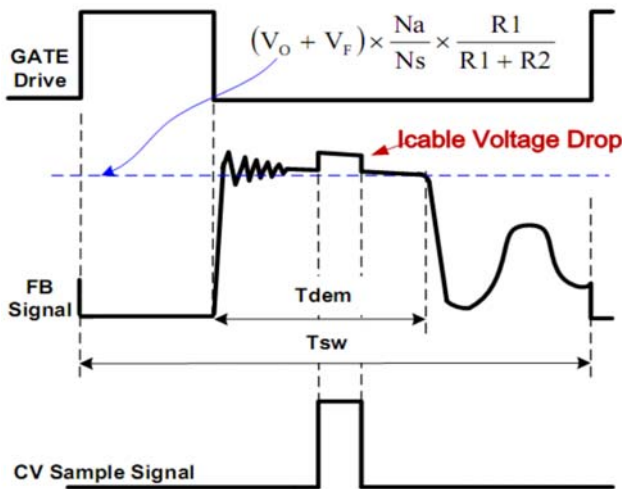

Fig.2
In primary side control, the output voltage is sensed on the auxiliary winding during the transfer of transformer energy to the secondary. Fig.2 illustrates the CV sampling signal timing waveform in U6773S. As shown in Fig.2, it is clear that there is a down slope representing a decreasing total rectifier V_f and its voltage drop as the secondary current decreases to zero. To achieve an accurate representation of the secondary output voltage on the auxiliary winding, the CV sampling signal blocks the leakage inductance reset and ringing. When the CV sampling process is over, the internal sample/hold (S&H) circuit captures the error signal and amplifies it through the internal Error Amplifier (EA). The output of EA is sent to the PSR Constant Voltage Modulator (PSR-CVM) for CV control. The internal reference voltage for EA is trimmed to 2V with high accuracy.
During the CV sampling process, an internal variable current source is flowing to FB pin for Cable Drop Compensation (CDC). Thus, there is a step at FB pin in the transformer demagnetization process, as shown in Fig.2. Fig.2 also illustrates the equation for “demagnetization plateau”, where V_o and V_f is the output voltage and diode forward voltage; R1 and R2 is the resistor divider connected from the auxiliary winding to FB Pin, N_s and N_a are secondary winding and auxiliary winding respectively.